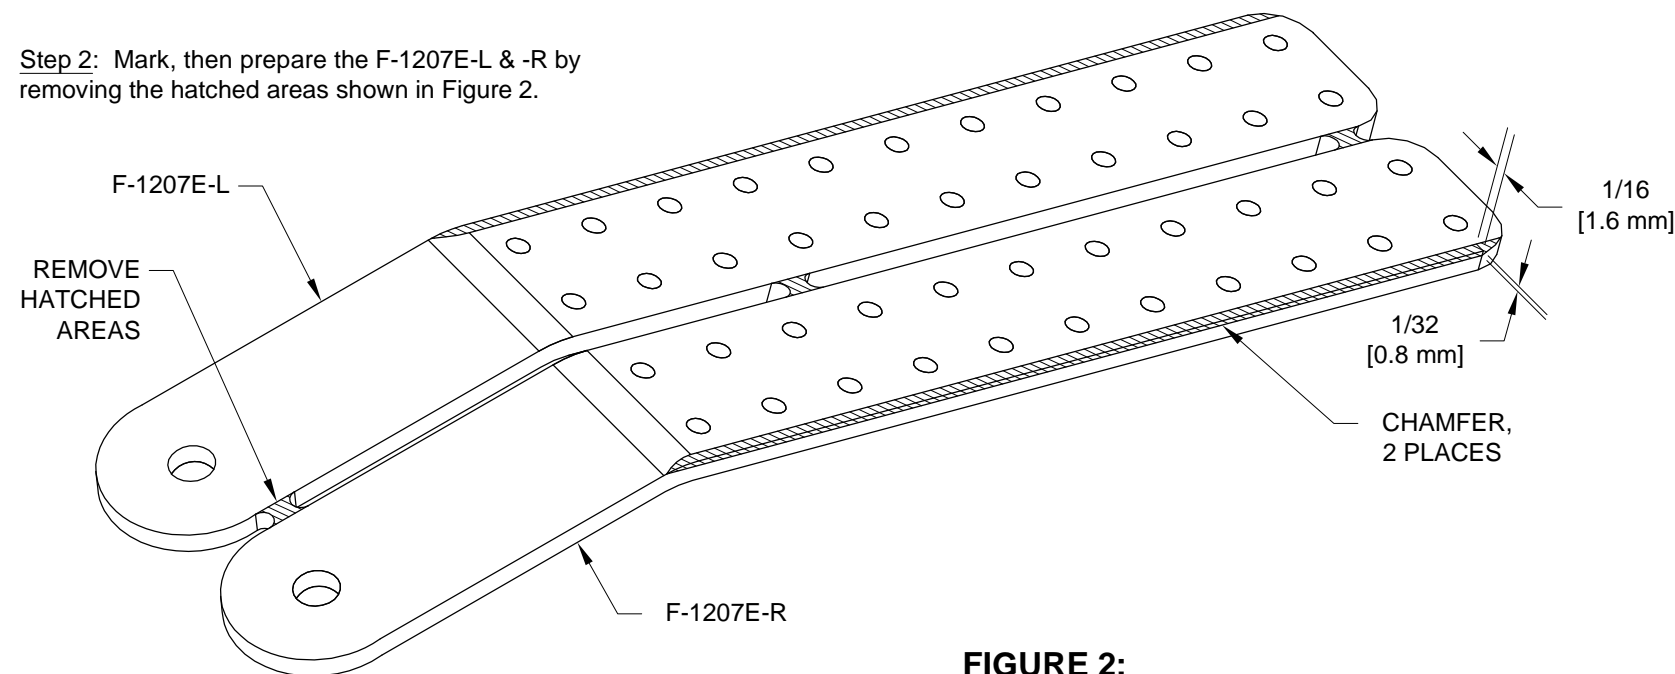

FIGURE 2:
Step 2: Mark, then prepare the F-1207E-L & -R by removing the hatched areas shown in Figure 2.